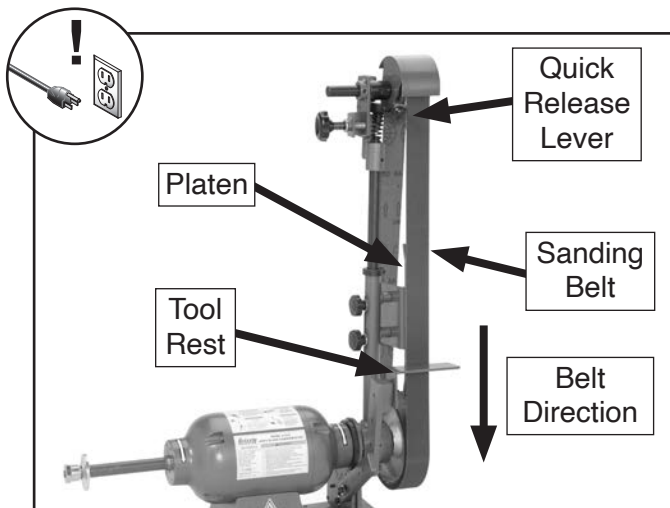

Figure 18. Sanding belt installed.
2. With the direction arrows printed on the inside front of the belt facing down, pull down on the quick release lever and wrap the belt around idler and drive wheels so that it is centered on both, as shown in **Figure 18**, then release the lever.
Note: To prevent the belt seam from catching on the workpiece, install the belt so that the direction arrows printed on the inside face of the belt follow the belt rotation, as shown in **Figure 18**.
2. Pull down on quick-release lever (see **Figure 18**, on **Page 20**), and remove the sanding belt.